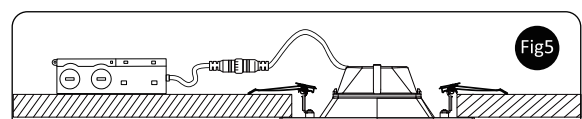

Fig. 5
5. Turn on the power after installation, check the fixture if works properly, see Fig. 5